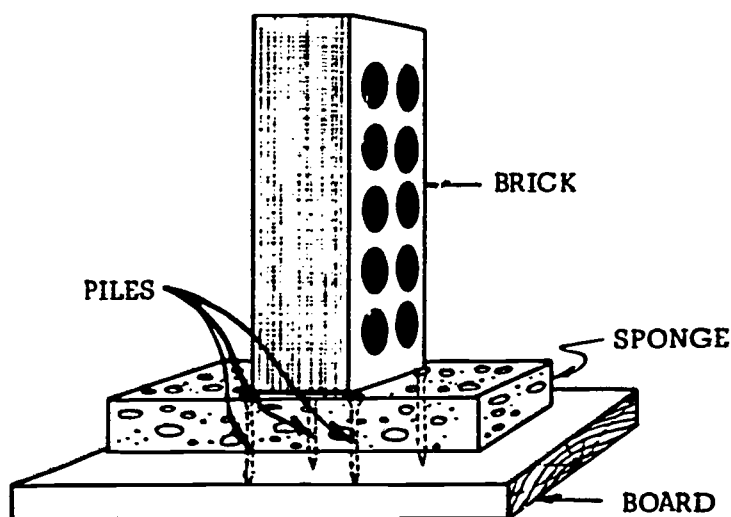

Fig. 69-5. Simulated Pile-Cap Foundation
- c. Now that the piles are driven, the brick may be placed on them at ground level. (See Fig. 69-5.)